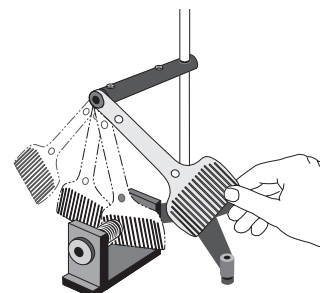

Figure 7
- ④ Repeat Steps 1 through 3 using the other two paddles. The open slotted paddle is only slightly damped (Figure 7). The closed slotted paddle is very damped, although it is less damped than the solid paddle.